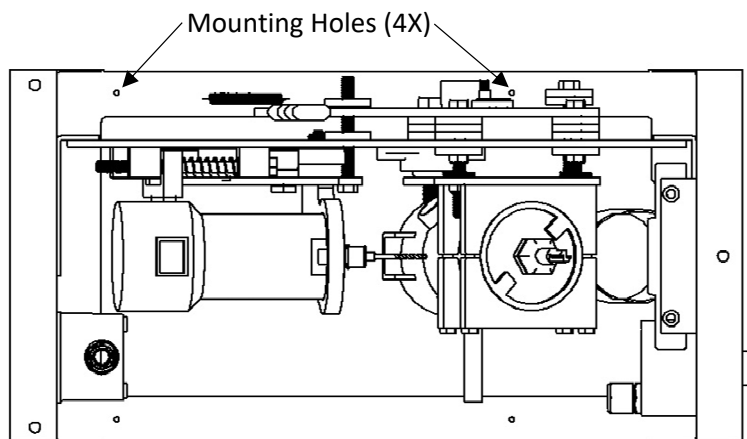

Figure 8: Mounting Holes
4. Secure the machine with either screws or bolts (not included) through the bottom 4X holes of the frame. See Figure 8: Mounting Holes.